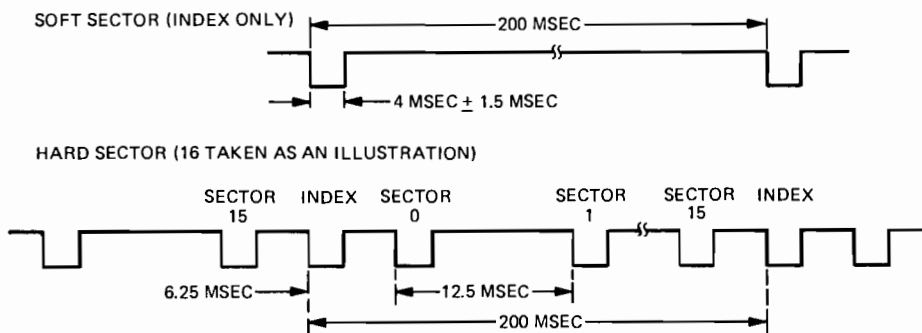

Figure 2-9. Index/Sector Timing
2.4.2.2 Index/Sector (J1-8). For soft sector operation that uses single-hole media, this line transmits a reference Index pulse once every diskette rotation to indicate the beginning of a track. For hard sector operation that uses multi-hole media, this line transmits the Index pulse and all Sector pulses, where Sector pulses indicate the beginning of a sector. Pulse width for both Index and Sector is 4 ± 1.5 milliseconds. An optional set of photosensors are installed on some configurations of the Model FDD100-5 Disk Drive to enable either side of the diskette to be recorded. Index/Sector timing is shown in Figure 2-9.